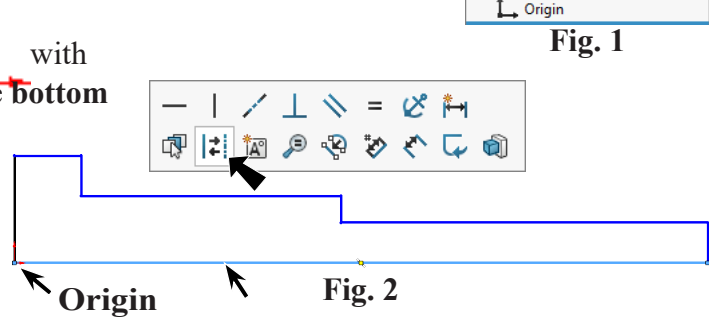

Fig. 2
Step 3. Click **Line**  (L) on the Sketch toolbar.
Step 4. Sketch lines starting off the Origin  with a vertical line and after sketching the **bottom horizontal line, right click** horizontal line and click **Construction Geometry**  on the context toolbar, **Fig. 2**.